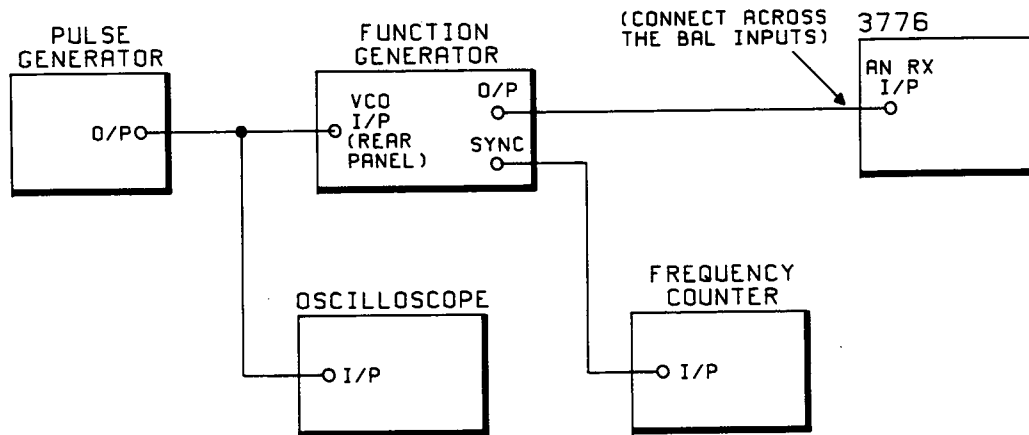

Figure 4-42 Threshold Range and Threshold Accuracy Test Set-up
1. Connect up the equipment as shown in Figure 4-42.